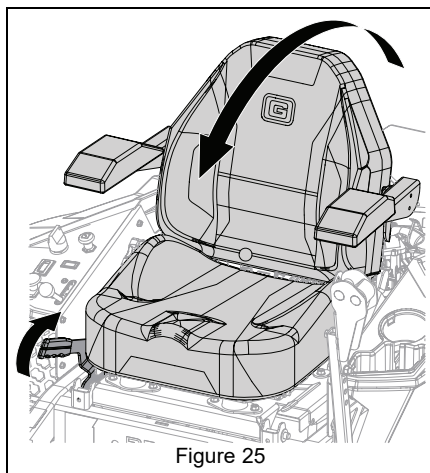

Figure 25
6. *Models 991266, 991268, 991270, 991271, 991272, 991274, 991276, 991278:* Rotate seat forward. See Figure 25.